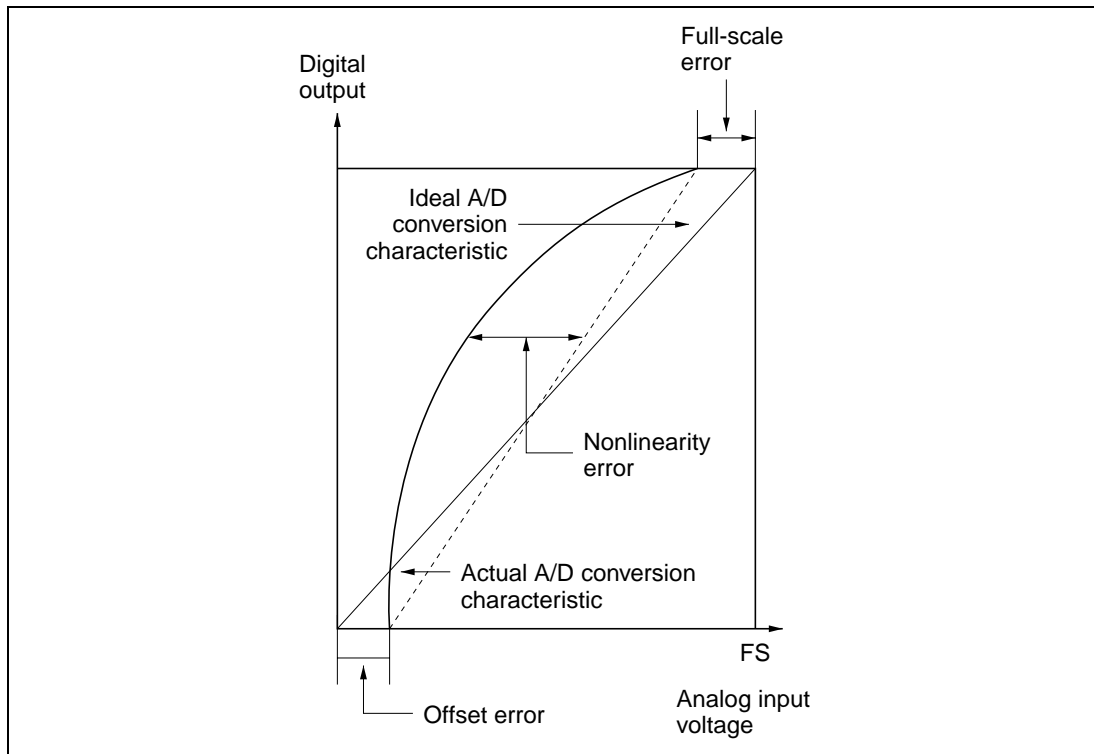

Figure 15.10 A/D Converter Accuracy Definitions (2)
- Offset error:.....Deviation from ideal A/D conversion characteristic of analog input voltage required to raise digital output from minimum voltage value 0000000000 to 0000000001 (figure 15.10)
- Full-scale error:.....Deviation from ideal A/D conversion characteristic of analog input voltage required to raise digital output from 1111111110 to 1111111111 (figure 15.10)